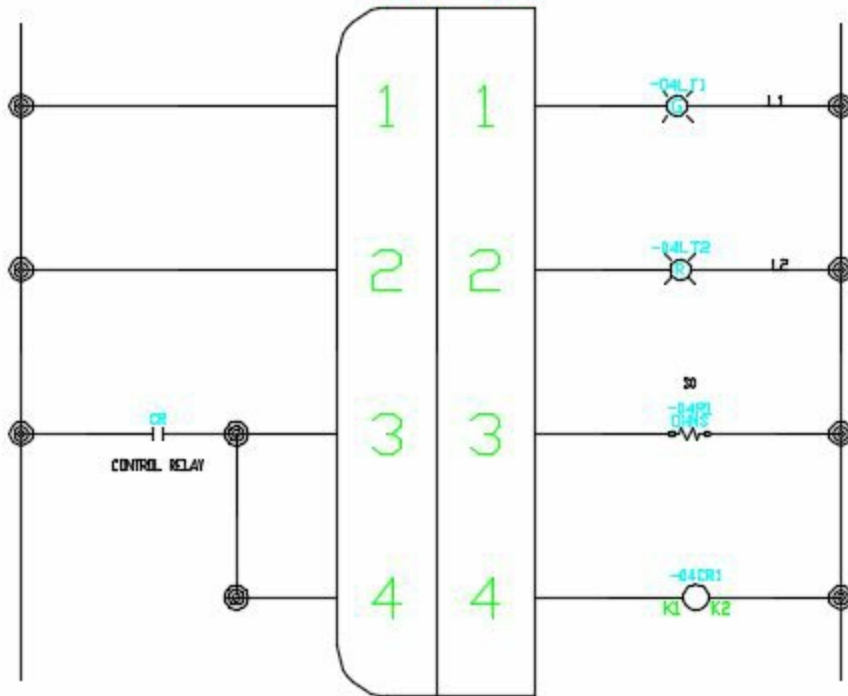

Figure-43. Schematic after placing the components
- Similarly, place the other components in the circuit. The schematic after placing all the components will be displayed as shown in Figure-43.